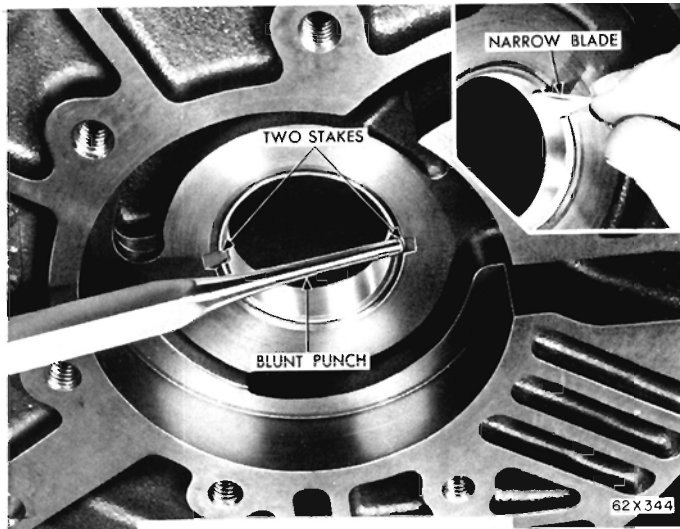

Fig. 81—Staking Front Pump Bushing
punch or similar tool (Fig. 81). A gentle tap at each stake slot location will suffice.
- (8) Using a narrow-bladed knife or similar tool, remove the high points or burrs around the staked area (Fig. 81). Do not use a file or similar tool that will remove more metal than is necessary.